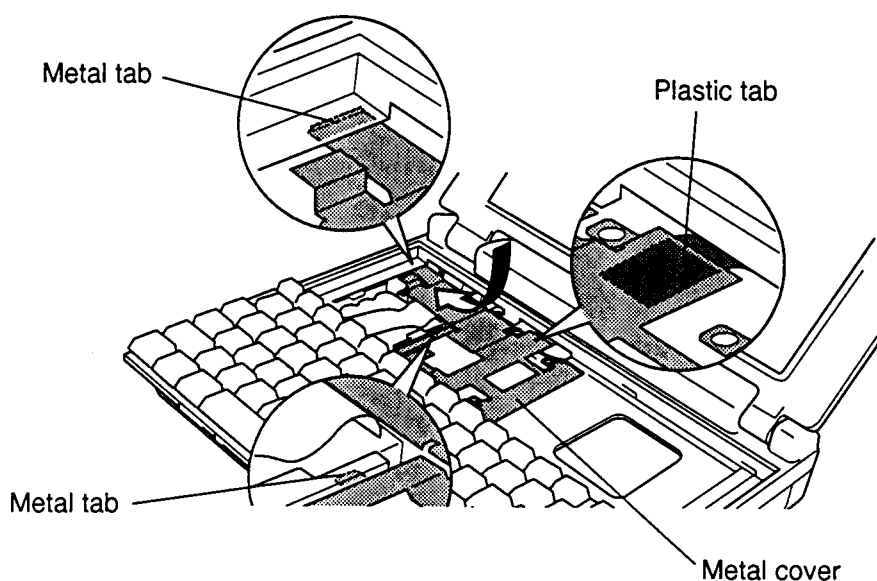

Figure 4-21 Seating the metal cover
To install the keyboard, follow the steps below and refer to Figures 4-21 back through 4-18.
2. Fit the two tabs of the metal cover into the top cover and backup battery base (see Figure 4-21), then seat the **metal cover** and secure it with **three M2.5x6 screws**. Make sure the plastic tab on the LED connector is under the metal cover.